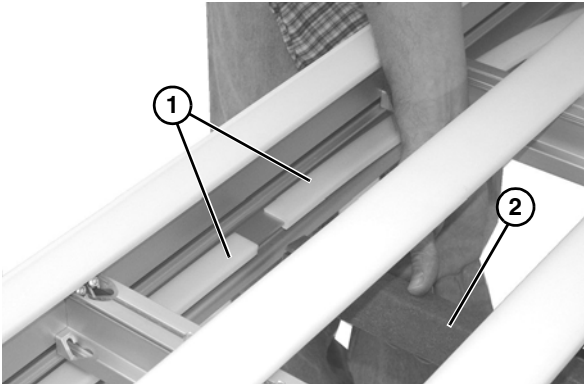

Figure 19
2. Remove lower wear strips (**Figure 19, item 1**), and if necessary, lower belt return (**Figure 19, item 2**) from lower frame assembly.